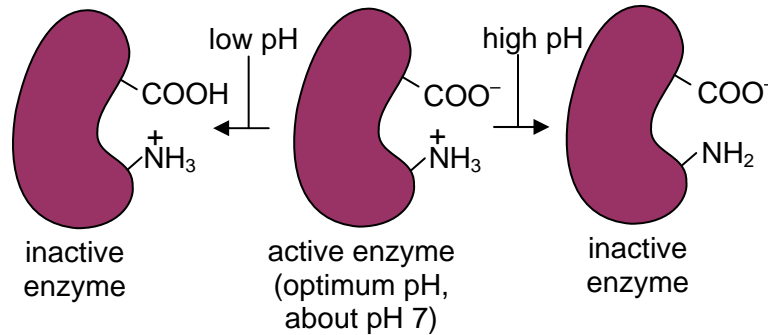

Figure 1.26 – pH changes can affect the ionization of the active site
- Even small changes around neutral pH can affect the ionization of amino acid side-chains in the active site and/or the substrate itself (Figure 1.26). If enzyme activity depends on particular residues in the active site being charged or not, then a shift of just one pH unit (remember that this represents a ten-fold change in  $H^+$  ion concentration) can change the enzyme activity significantly.